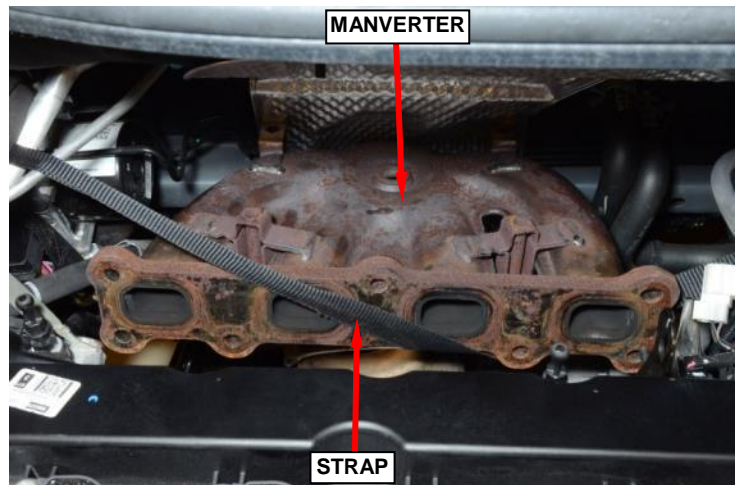

Figure 45 – Manverter Secured
- f. Using a suitable strap, secure the manverter rearward against the cowl away from the engine to provide adequate engine removal/installation clearance (Figure 45). It is not necessary to remove the manverter from the vehicle.